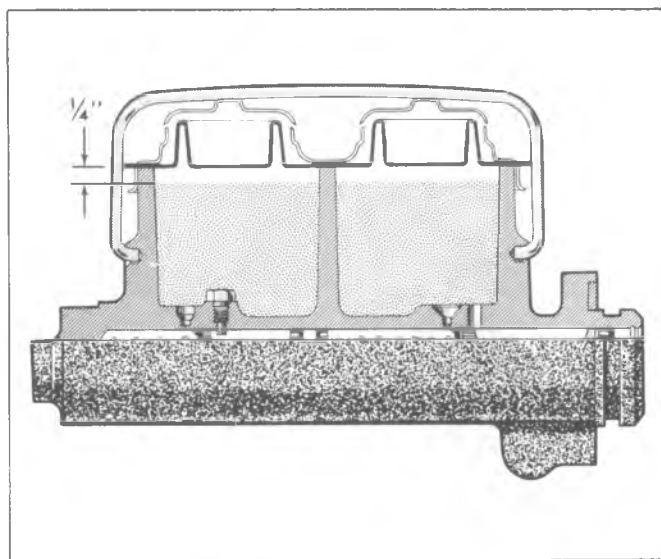

Fig. 6—Correct Fluid Level
11. Fill master cylinder reservoirs to within 1/4" of reservoir rims as shown in Figure 6.
7. Fill the master cylinder to the level shown in Figure 6.